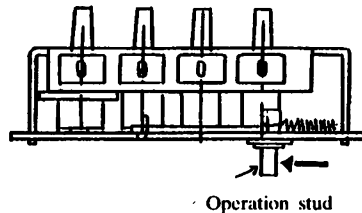

Fig. 89
- (1) Remove the motor head cover.
- (2) Remove the row counter.
- (3) Push the Operation stud to the direction of arrow indicated in the Fig. 89. If the number is decreased by the action of stud on each time, the function of row counter is in order.